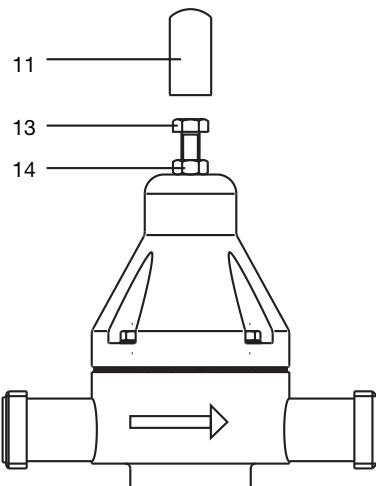

Fig. 3
- Detach protective cap (11) (see Fig. 3).
- Release (until easy to turn) pressure adjusting screw (13) to relieve the pressure.
- Set the required operating pressure by screwing in pressure adjusting screw (13) (read off setting pressure at pressure gauge).
- Secure pressure adjusting screw (13) by tightening lock nut (14).